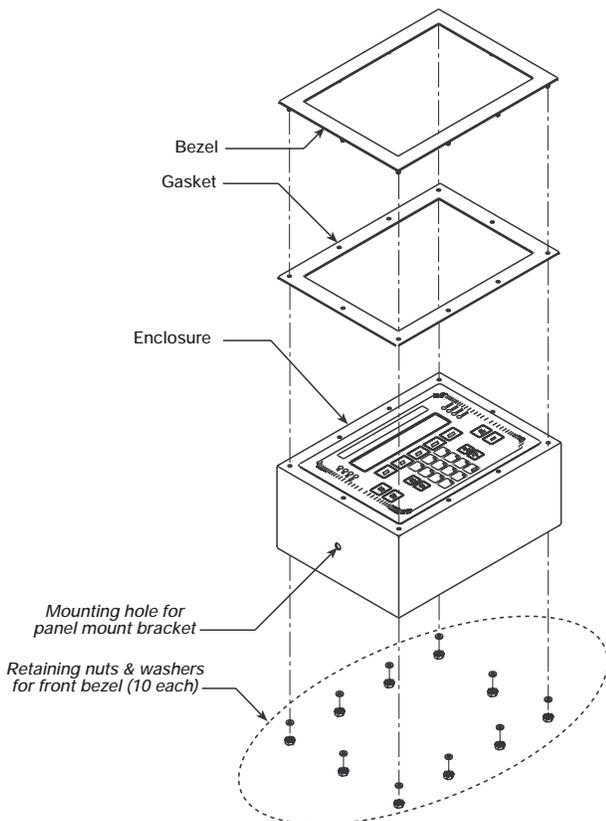

Figure 2-13. IQ plus 800 Bezel and Gasket Replacement (for indicators manufactured after September 1997)
5. Remove the 10 nuts and washers that secure the bezel to the front of the enclosure (see Figure 2-13).